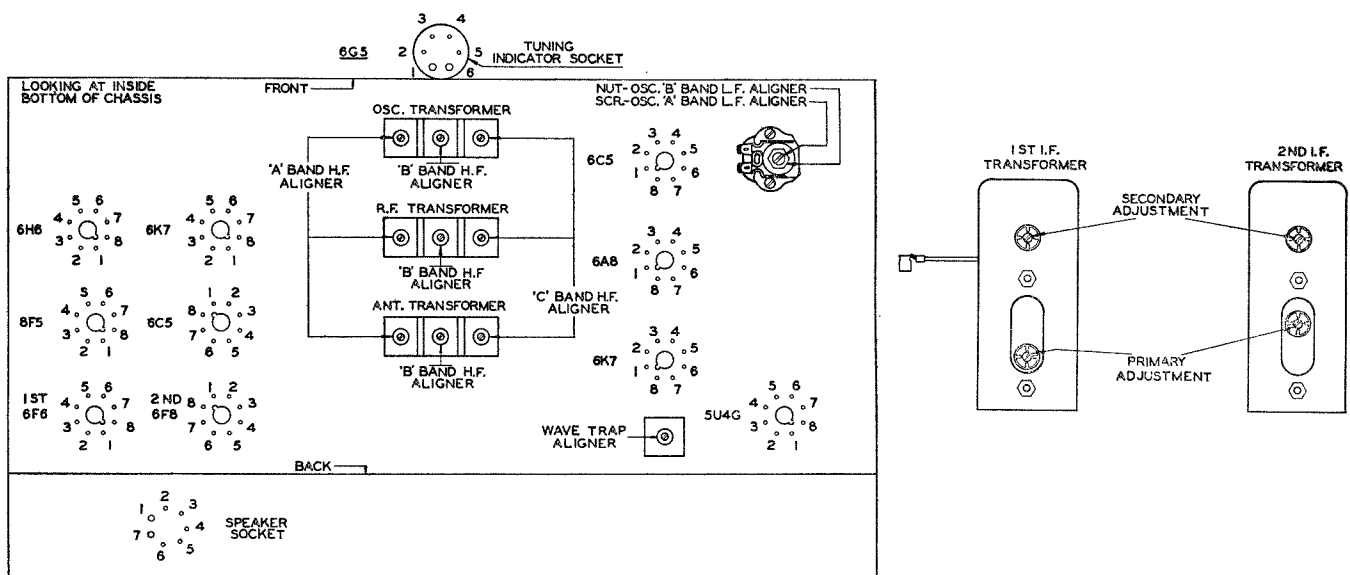

Fig. 1. Terminal Layout for Voltage Measurement Chart and Location of the Various Aligning Capacitors.
The various values of voltages listed in the following table are obtained by measuring between the various tube socket contacts and the chassis base, with the tubes in their respective sockets. The receiver is, therefore, in operation when the measurements are made. Figure 1, shows the terminal layout of the sockets with the proper terminal numbers.
Admission Control" is set for the maximum sensitivity position and that the "Fidelity" control knob is set for the "normal" position. The "Off-On-Bass" control knob should also be set for the normal position. Figure 1 shows the location of all the aligning capacitors or adjustments for this receiver.
3. Now, noting from Figure 1 the aligning adjustments for the first and second I. F. transformers, align the I. F. circuits in the following manner: